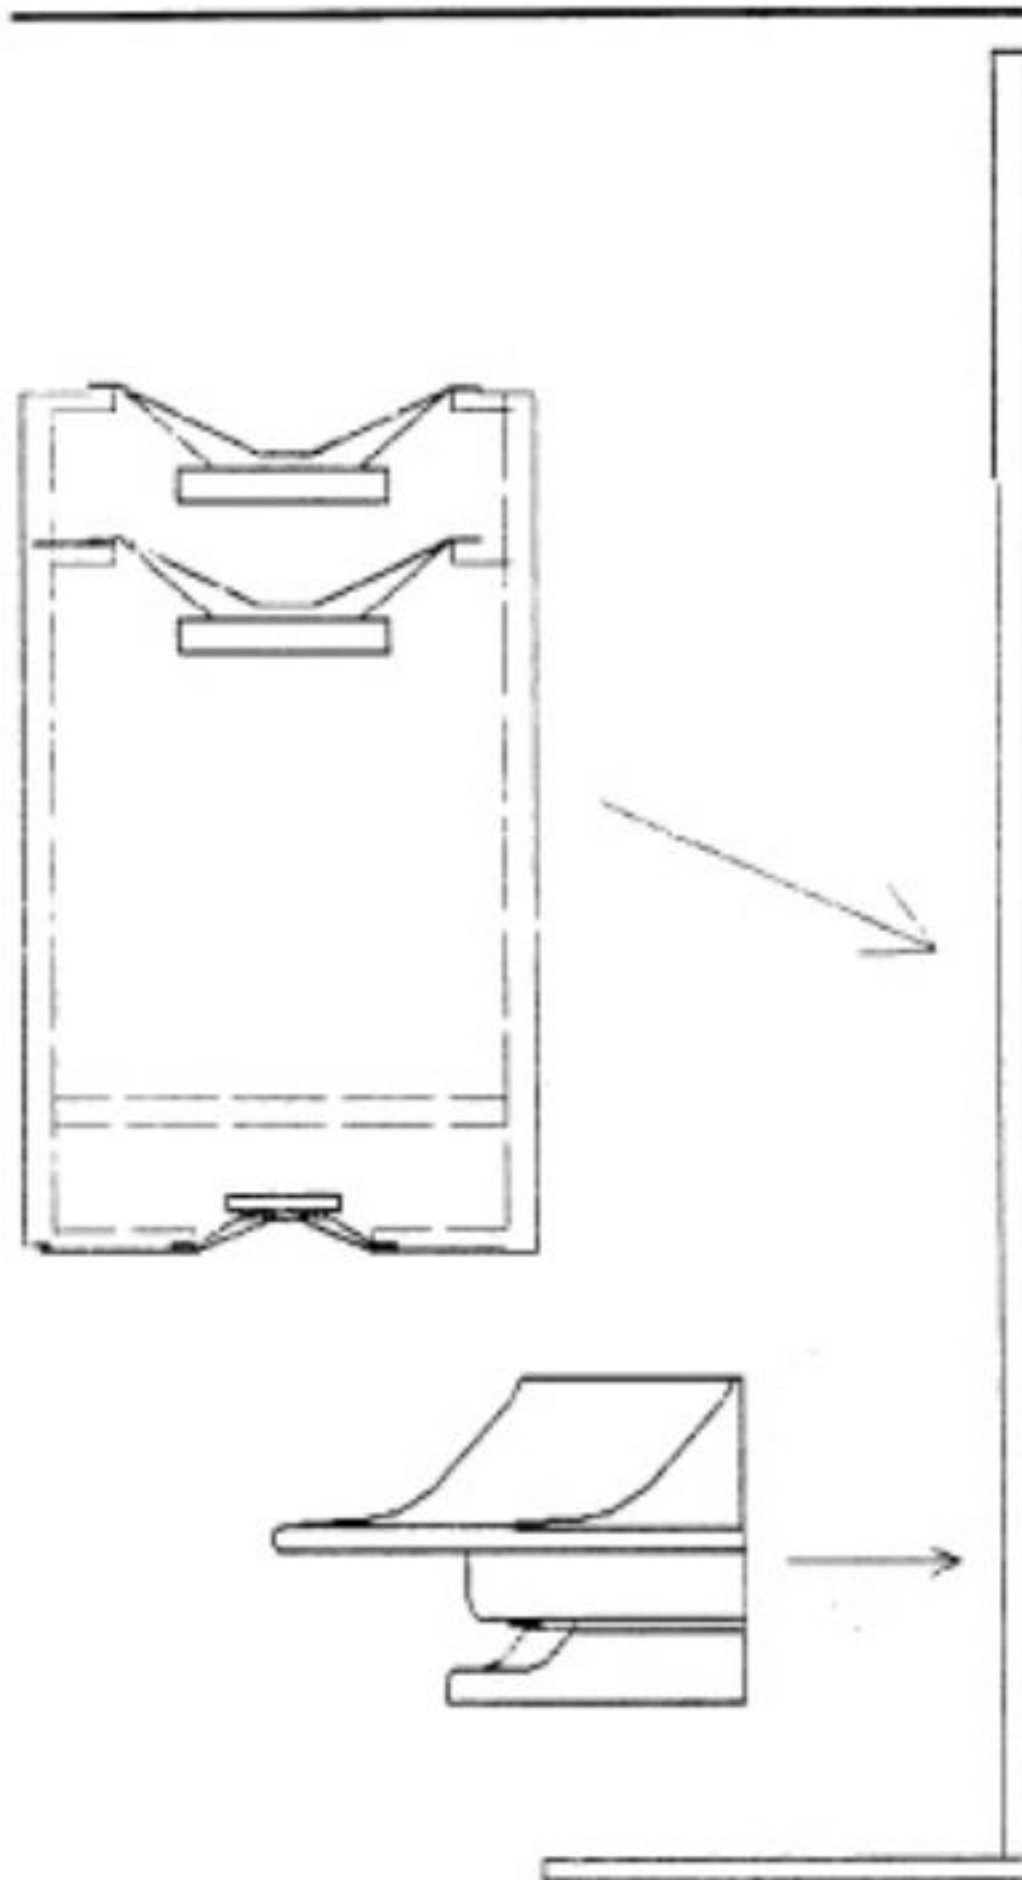

FIGURE 11: The cabinet modules.
**THE ENCLOSURE.** The cabinet is made from ¾" particle board covered with ¼" oak plywood. I made no attempt to construct a heavy nonresonating enclosure as it makes frequent removal from the wall for adjustments difficult. The cabinet is made of modules as can be seen in Fig. 11.